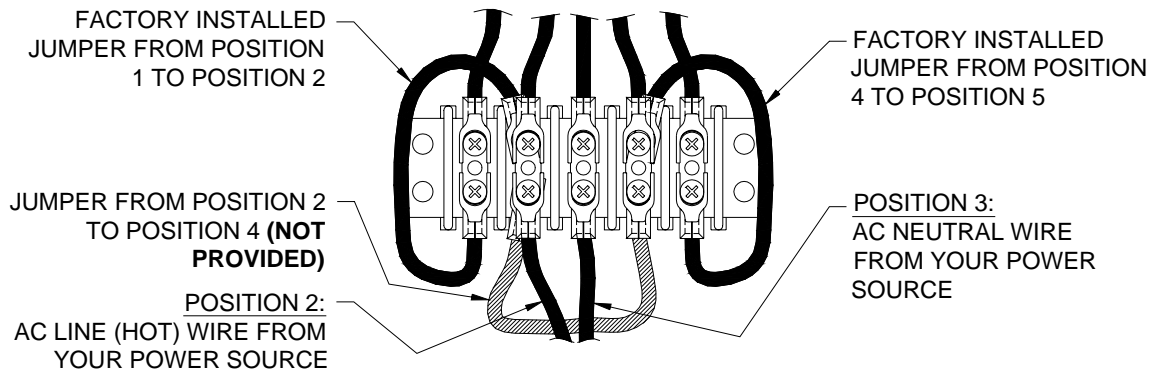

Figure 9 120 VAC Connections
4. If you are going to connect the scoreboard to a 120 VAC supply, connect the AC line wire to position 2 and the AC neutral wire to position 3 of terminal strip T3 on the junction chassis. Add a jumper from position 2 to position 4. **This jumper is not provided.** Refer to figure 9.